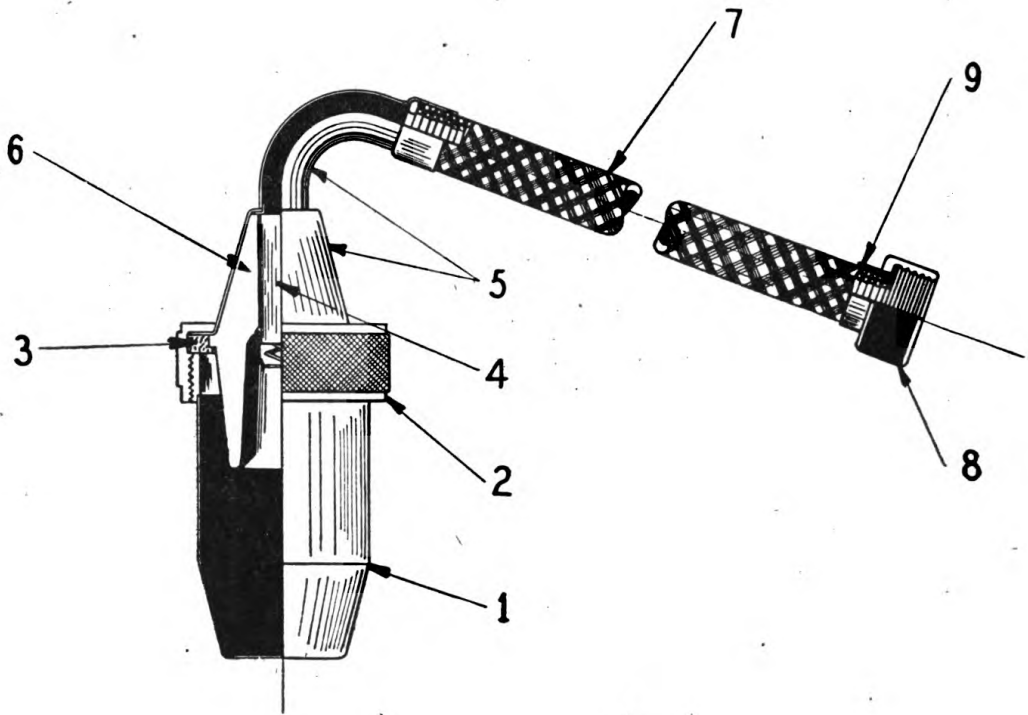

Figure 24.—Ignition shielding
j. Ignition shielding (figure 24).—